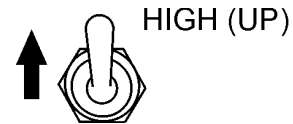

Figure 49. Engine Speed Switch (High)
2. Place the **Engine Speed Switch** (Figure 49) in the **HIGH** position